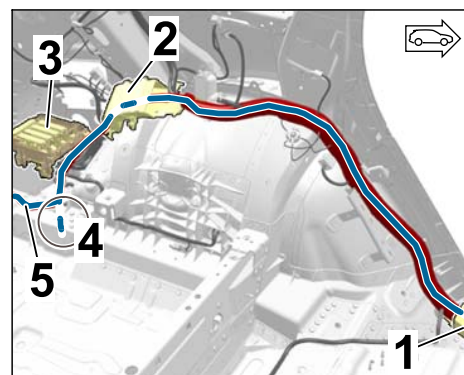

Figure 32
3.2.3 Wheel housing area, left (\Rightarrow Figure 32)